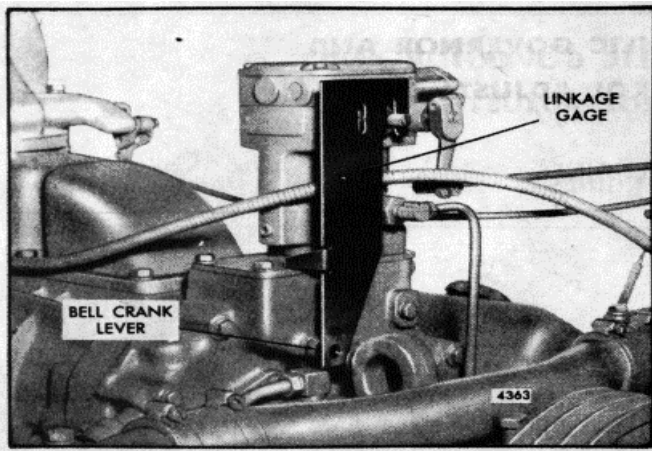

Fig. 4. - Linkage Gage in Position
12. Remove the bolt from the recessed hole in the drive housing and install linkage gage J 21304 (Fig. 4).